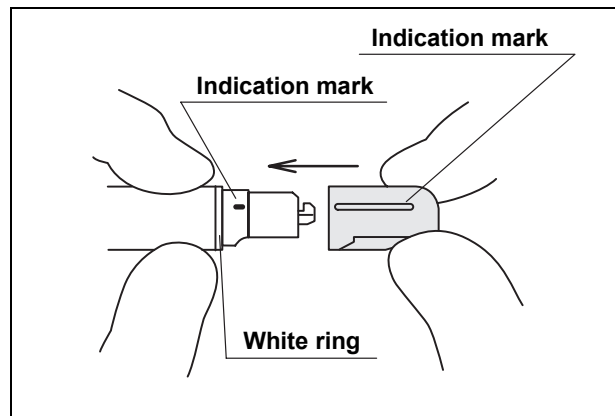

Figure 3.16
2. Gently hold the covering of the bending section as close to the distal end as possible (see Figure 3.16). Hold the top end of the distal cover with the metal insert (see Figure 3.16). Align the indication mark on the white ring with the indication mark on the distal cover.